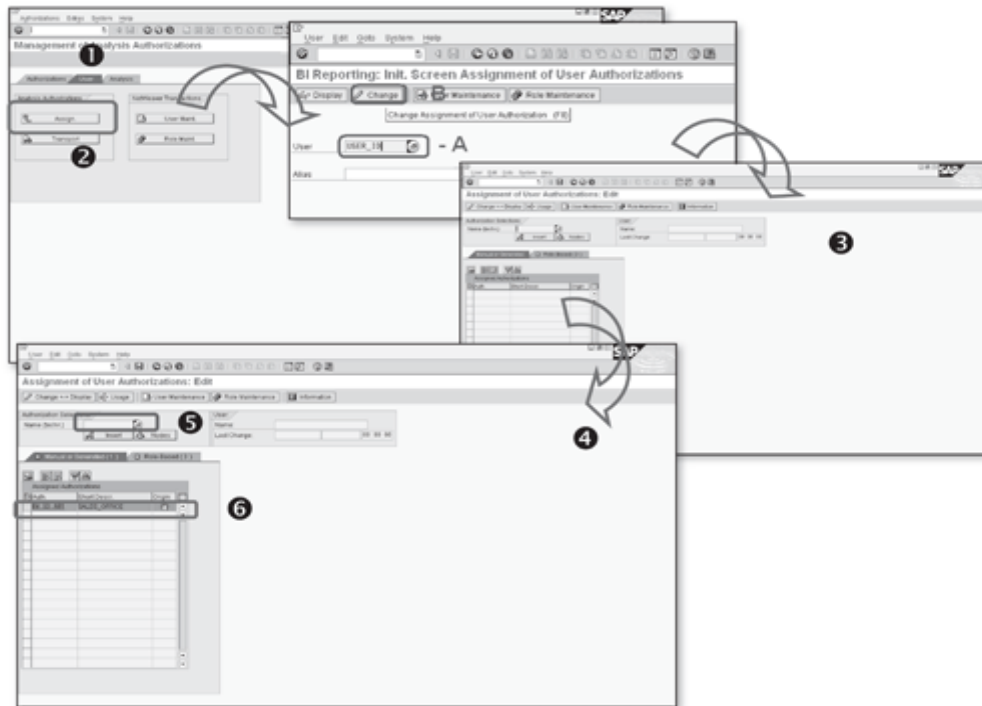

Figure 14.45 Assign Analysis Authorization
The third step is to assign the authorization object to a user ID. Use Transaction RSEADMIN, and the system opens Management of Analysis Authorizations. Click on the User tab (Figure 14.45). You're now assigning the authorization object to a user ID for providing access to analysis on reports for sales office 1422.
The screen has two separate boxes: Analysis Authorizations and NetWeaver Transactions (❶ of Figure 14.45). Click on the Assign button (❷), and the system takes you to BI Reporting: Init. Screen Assignment of User Authorizations. Use the user ID SM01 (A in Figure 14.45) for the sales manager (for Sales Office 1422), and click on the Change button (B in Figure 14.45). The system brings you to Assignment of User Authorizations: Edit (❸). The following screen has 2 tabs; Manual or generated and Role Based (❹). System by default takes you to Manual or generated tab, note at this instance, there is no row in the table of Assigned Authorization. In the entry box for Name (Techn.) field (❺), enter the name of the authorization object you created (BW_SD_A01, in our example), and click Insert. The authorization object is assigned to the user referred to in ❹. Click the Save icon, and the system displays a message indicating successful assignment at the bottom of the screen. Use the Back icon to return to Management of Analysis Authorizations.